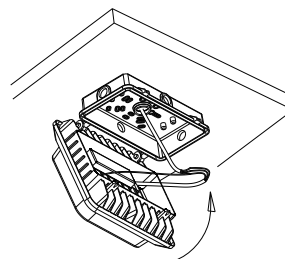

Figure 2-7
7. Close the box carefully not to cut any wires. Fig. 2-7